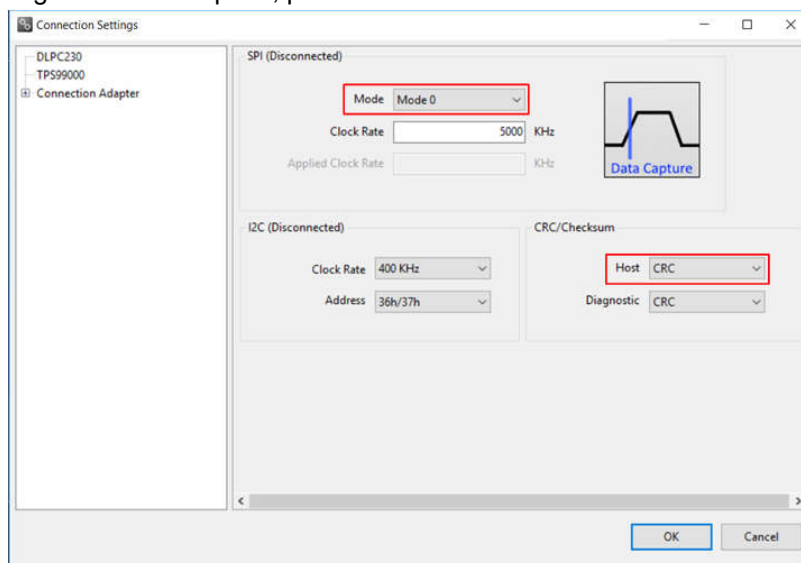

Figure 2-7. DLPC230-Q1 Automotive Control Program Communication Settings
3. Select *Connection Settings* to confirm the SPI configuration shown in Figure 2-7 matches the controller PCB switch settings described in Table 1-3. Specifically, SPI mode and CRC/Checksum can vary based on switch settings. When configuration is complete, press **OK**.